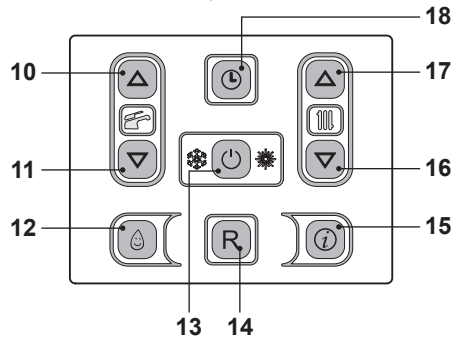

Fig. 2.16
Press keys 16 and 17 (Fig. 2.16) at the same time for 2 seconds to enter programme menu (Fig. 2.17).
Press key 13 (Fig. 2.16) to modify the function status: (13 scrolls through Menu **oFF**, **ch on**, **ch oFF**) Fig. 2.18.
Press keys 10 or 11 (Fig. 2.16) to programme the forced heating function Minimum 1 hour to Maximum 30 days (The above example has been set for **ch on** for 1 day) (Fig. 2.19).
To exit programming without making any changes press keys 16 and 17 (Fig. 2.16) at same time for 2 seconds.
Hold down keys 16 and 17 (Fig. 2.16) at the same time for 2 seconds until the remaining time and status of the programme appears on the LCD display.
Press key 13 (Fig. 2.16) to modify the status to "oFF".
To exit programming without making any changes press key 16 and 17 (Fig. 2.16) at the same time for 2 seconds or wait 60 seconds.